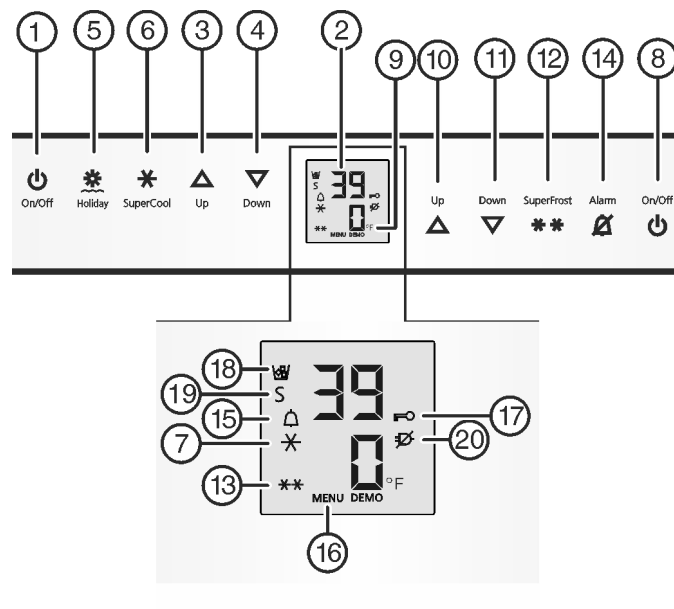

Fig. 3
- ▶ Press On/Off button, freezer compartment *Fig. 3 (8)*.
- ▶ Press Fridge compartment On/Off button *Fig. 3 (1)*.
- ▶ Activate setting mode: Press SuperFrost button *Fig. 3 (12)* for about 5 seconds.
- ▷ The Menu symbol *Fig. 3 (16)* lights up.
- ▶ Using Freezer compartment Up button *Fig. 3 (10)*/ Freezer compartment Down button *Fig. 3 (11)* select °.
- ▶ To confirm: Briefly press SuperFrost button *Fig. 3 (12)*.
- ▶ Using Freezer compartment Up button *Fig. 3 (10)*/ Freezer compartment Down button *Fig. 3 (11)* select °F or °C.
- ▶ To exit setting mode: Press Freezer compartment On/Off button *Fig. 3 (8)*.
- ▶ Activate setting mode: press and hold the SuperFrost button *Fig. 3 (12)* for approximately 5 s.
- ▶ Using the Freezer compartment Up button *Fig. 3 (10)* or Freezer compartment Down button *Fig. 3 (11)*, select c.
- ▶ Press the SuperFrost button *Fig. 3 (12)* briefly to confirm.
- ▶ To switch on the child-proof lock, press the SuperFrost button *Fig. 3 (12)* briefly.
- ▷ The Child safety symbol *Fig. 3 (17)* lights up. c flashes on the display.
- ▶ To switch off the child-proof lock, press the SuperFrost button *Fig. 3 (12)* briefly.
- ▷ The Child safety symbol *Fig. 3 (17)* goes out. c flashes on the display.
- ▶ Deactivate setting mode: press the Freezer compartment On/Off button *Fig. 3 (8)*.
- ▶ Press Alarm button *Fig. 3 (14)*.
At the same time, the Alarm symbol *Fig. 3 (15)* will flash.
The audible warning automatically ceases, the Alarm symbol *Fig. 3 (15)* goes out, and the temperature display stops flashing when the temperature is cold enough again.